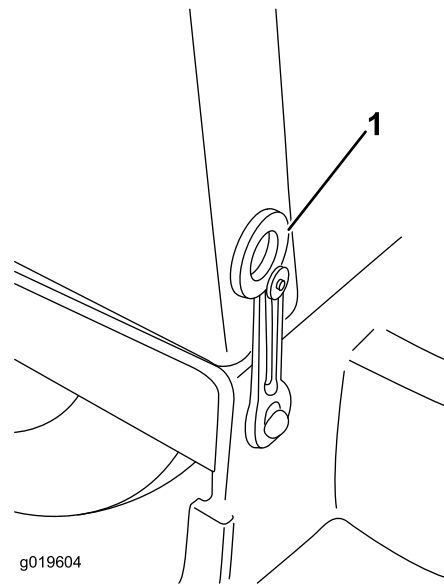

Figure 18
2. Unhook the cowl latches (Figure 18) and remove the cowl.